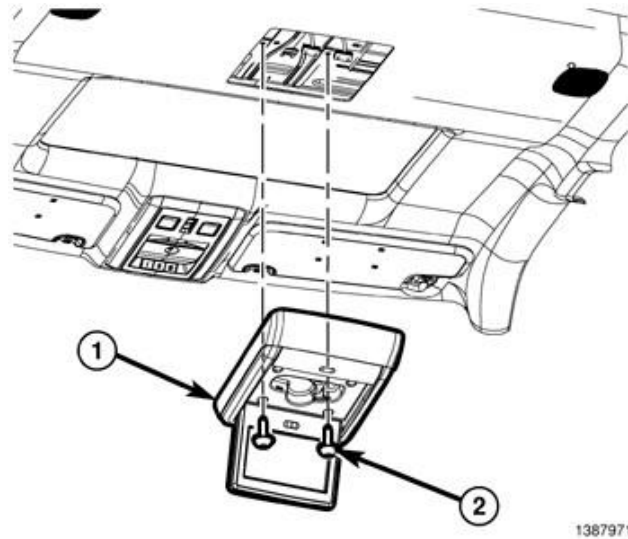
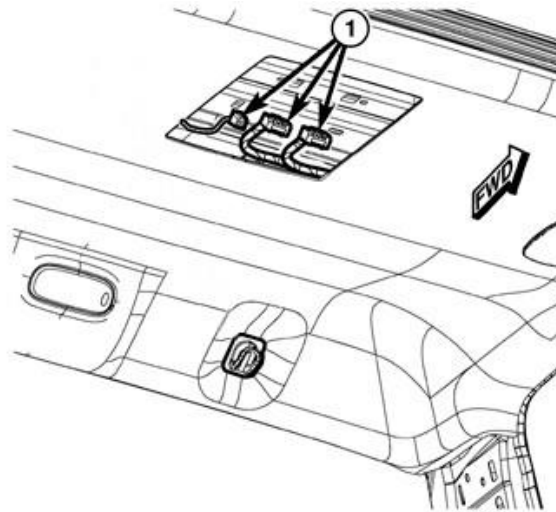

Figure 45 – Rear Seat DVD Monitor
Figure 46 – DVD Monitor Electrical Connectors
15. If equipped with DVD monitor, remove the screws (2) and separate the monitor (1) from the roof (Figure 45).
16. If equipped with DVD monitor, disconnect the electrical connectors (1) (Figure 46).
43. If equipped with DVD monitor, connect the DVD monitor electrical connectors (1) (Figure 46). Position the DVD monitor to the roof then install and tighten the screws (2) (Figure 45).